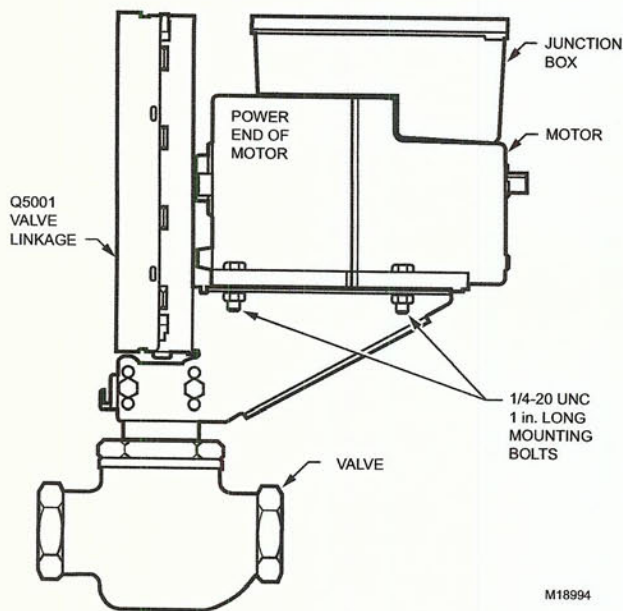

Fig. 4. Mounting the Motor on a Q5001 Valve Linkage.
3. Attach the motor to the bracket with the four bolts provided (See Fig. 4).
The Q100 Linkage requires the 220738A Adapter Bracket for all valve applications. Applications with the Q5001 Valve Linkage do not require the 220738A Adapter Bracket (Refer to Fig. 4).